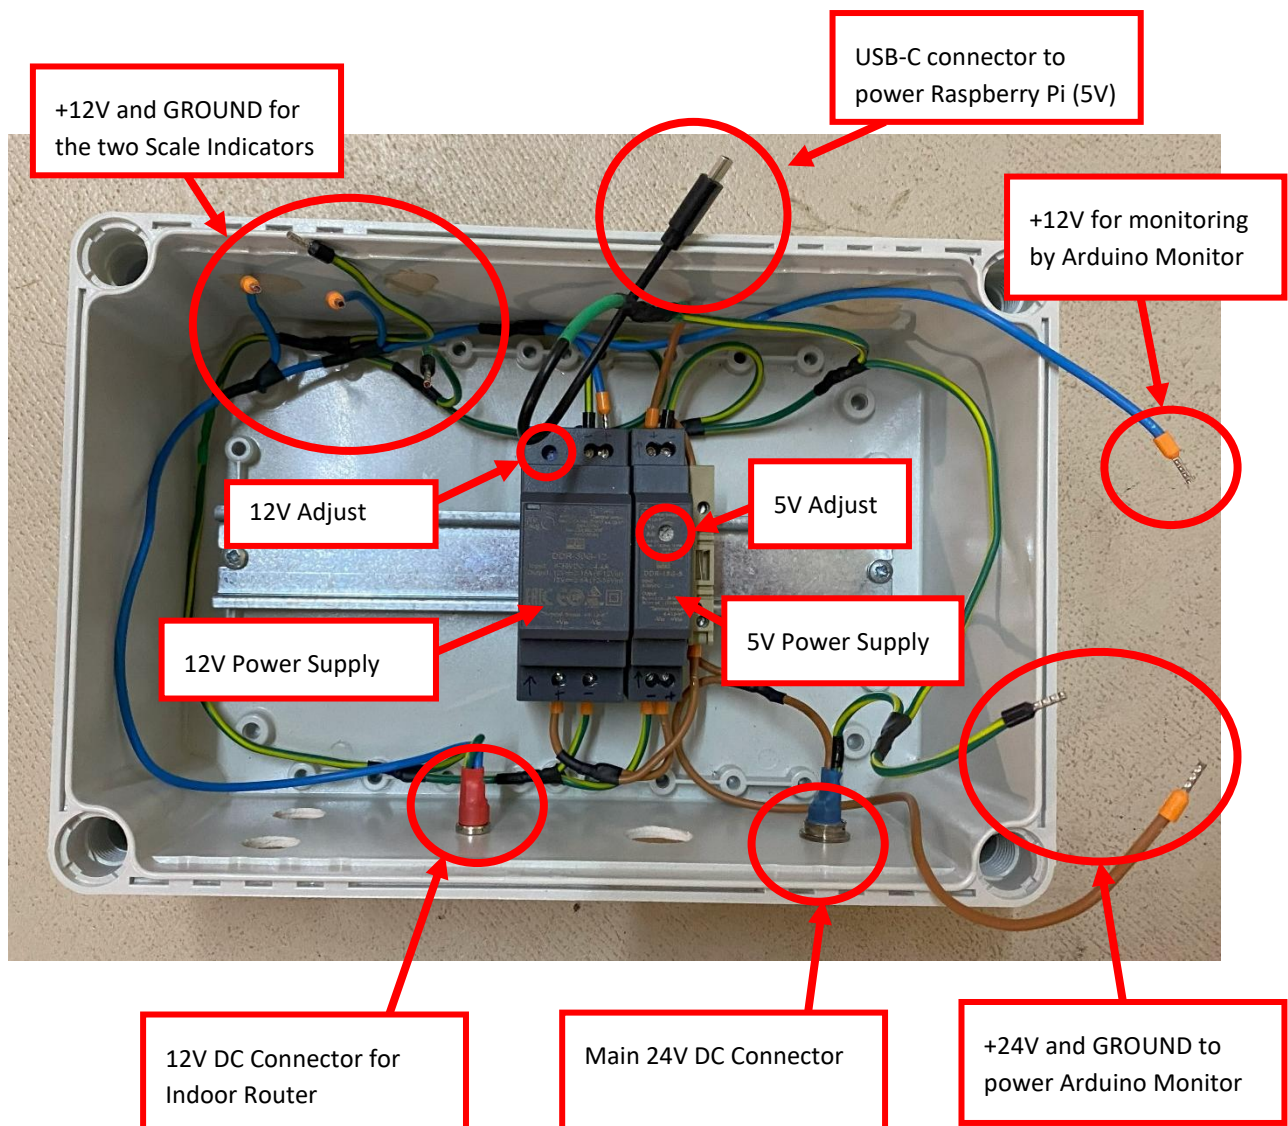

Figure 40 - Power Supplies and Wiring
- See FIGURE 40 - POWER SUPPLIES AND WIRING
- Measure the output of the 5V power supply and set it to 5.1V. The supply can be adjusted by turning the “5V Adjust” potentiometer, as seen in FIGURE 40 - POWER SUPPLIES AND WIRING.